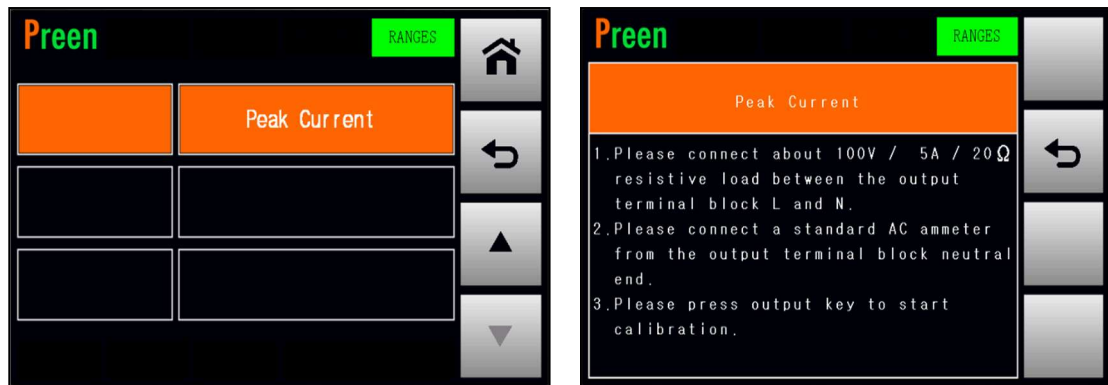

Figure 4.17 Enter into the page which calibrates the peak current
1. Press the item Peak Current repeatedly to enter into the page which calibrates the peak current (refer to Figure 4.17).